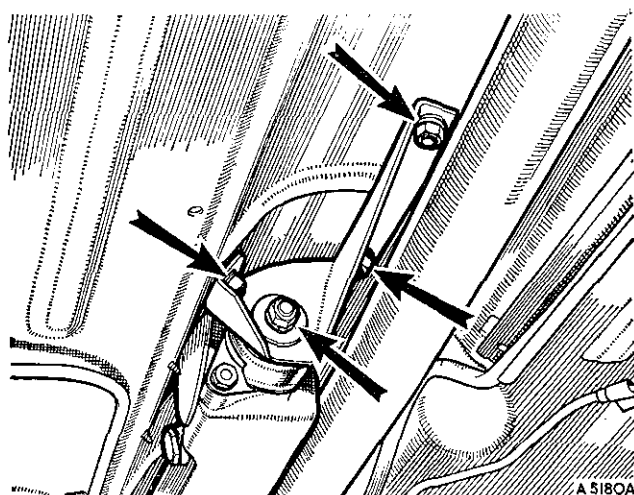

Fig. A.12
- (1) Carry out the instructions (1) to (9) and (16) in Section A.12.
- (2) Remove the fresh-air motor (when fitted).
- (3) Disconnect the oil gauge pipe.
- (4) Take off the distributor cap.
- (5) Remove the carburetters and air cleaners (Sections A.1 and A.2).
- (6) Remove the exhaust pipe assembly (Section A.3).
- (7) Remove the three bolts securing the rear extension mounting to the floor (Fig. A.12).
- (8) Unscrew the gear lever knob and take out the screws with the rubber cover and plate.
- (9) Remove the gear-change extension. Disconnect the hydraulic and vacuum pipe and remove the brake servo (Cooper 'S').